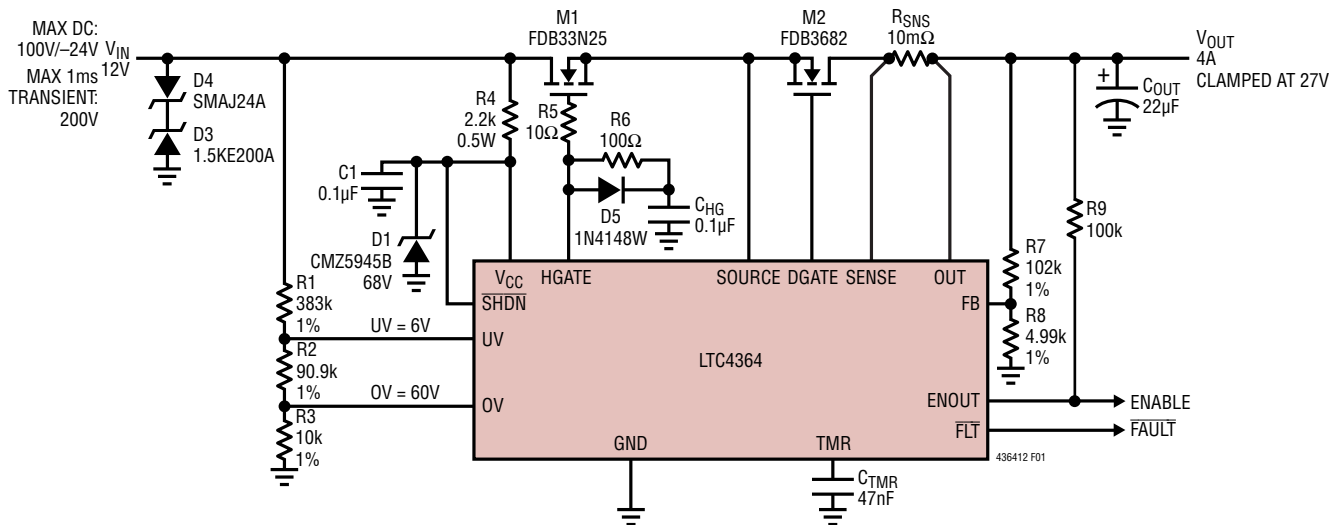
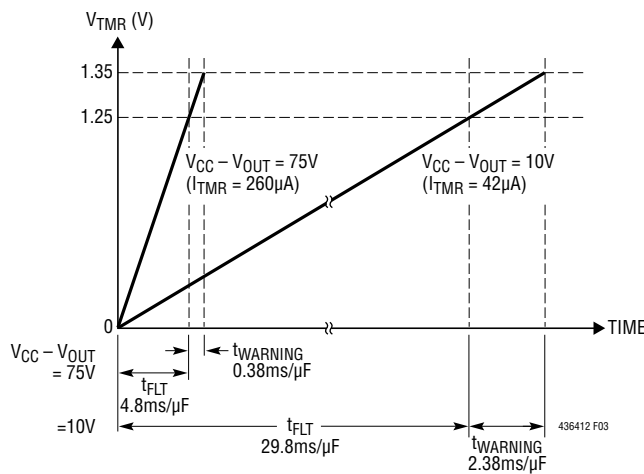

Figure 1. 4A, 12V Overvoltage Output Regulator with Reverse Current Protection
**Figure 2. External UV and OV Configuration Blocks Start-Up Into an Overvoltage Condition**
**$\Delta V_{HGATE}$  vs  $V_{IN}$  in Figure 1**
**$\Delta V_{DGATE}$  vs  $V_{IN}$  in Figure 1**
The LTC4364 drives an N-channel MOSFET (M1) at the HGATE pin to limit the voltage and current to the load circuitry during supply transients or overcurrent events. The selection of M1 is critical for this application. It must stay on and provide a low impedance path from the input supply to the load during normal operation and then dissipate power during overvoltage or overcurrent conditions. The LTC4364 also drives a second N-channel MOSFET (M2) at the DGATE pin as an ideal diode to protect the load from damage during reverse polarity input conditions, and to block reverse current flow in the event the input collapses. A typical application circuit using the LTC4364 to regulate the output at 27V during input surges with reverse input protection is shown in Figure 1.
Input overvoltage is detected with the OV pin and an external resistive divider connected to the input (Figure 1). At power-up, if the OV pin voltage is higher than its 1.25V threshold before the 100 $\mu\text{s}$  internal power-on-reset expires, or before the input undervoltage condition is cleared at the UV pin, the HGATE pin will be held low until the OV pin voltage drops below its threshold. To prevent start-up in the event the board is hot swapped into an overvoltage supply, separate resistive dividers with filtering capacitors can be used for the OV and UV pins (Figure 2). The RC constants should be skewed so that  $\tau_{\text{UV}}/\tau_{\text{OV}} > 50$ . In Figure 2, if the board is plugged into a supply that is higher than 60V, the LTC4364 will not turn on the pass devices until the supply voltage drops below 60V.
The LTC4364 detects input undervoltage conditions such as low battery using the UV pin. When the voltage at the UV pin is below its 1.25V threshold, the HGATE pin pulls low to keep the pass device off. Once the UV pin voltage rises above the UV threshold plus the UV hysteresis (50mV typical), the HGATE pin is allowed to pull up without going through a timer cycle. In Figure 1 and Figure 2, the input UV threshold is set by the resistive dividers to 6V. An undervoltage condition does not produce an output at the  $\overline{\text{FLT}}$  pin.
The LTC4364 drives two N-channel MOSFETs, M1 and M2, as the pass devices to conduct the load current (Figure 1). The important features are on-resistance,  $R_{\text{DS(ON)}}$ , the maximum drain-source voltage,  $V_{(\text{BR})\text{DSS}}$ , the threshold voltage, and the safe operating area, SOA (for M1).
The added gate capacitor slows down the turn-off time during fault conditions and allows higher peak currents to build up during an output short event. If this is a concern, an extra resistor, R6, in series with  $C_{HG}$  can restore the turn-off time. A diode, D5, should be placed across R6 with the cathode connected to  $C_{HG}$  as shown in Figure 1. In a fast transient input step, D5 provides a bypass path to  $C_{HG}$  for the benefit of holding HGATE low and preventing self enhancement.
The LTC4364 is tested to operate to 80V and guaranteed to be safe from damage between 100V and  $-40\text{V}$ . Voltage transients above 100V or below  $-40\text{V}$  may cause permanent damage. During a short-circuit condition, the large change in current flowing through power supply traces coupled with parasitic inductances from associated wiring can cause destructive voltage transients in both positive and negative directions at the  $V_{CC}$ , SOURCE, and OUT pins. To reduce the voltage transients, minimize the power trace parasitic inductance by using short, wide traces. A small RC filter (R4 and C1 in Figure 1) at the  $V_{CC}$  pin filters high voltage spikes of short pulse width.
Another way to limit supply transients above 100V at the  $V_{CC}$  pin is to use a Zener diode and a resistor, D1 and R4, as shown in Figure 1. D1 clamps voltage spikes at the  $V_{CC}$  pin while R4 limits the current through D1 to a safe level during the surge. In the negative direction, D1 along with R4 clamps the  $V_{CC}$  pin near GND. The inclusion of R4 in series with the  $V_{CC}$  pin increases the minimum required supply voltage due to the extra voltage drop across the resistor, which is determined by the supply current of the LTC4364 and the leakage current of D1. 2.2k adds about 1V to the minimum operating voltage.
For sustained, elevated supply voltages, the power dissipation of R4 in Figure 1 becomes unacceptable. This can be resolved by using an external depletion mode N-channel MOSFET to replace R4 (M1 in Figure 7a) or using an external NPN transistor (Q1 in Figure 7b) as a buffer. To protect Q1 against supply reversal, block the collector of Q1 with a series diode or tie it to the cathode of D3 and D4 in Figure 1.
Transient suppressor D3 in Figure 1 clamps the input voltage to 200V for voltage transients higher than 200V, to prevent breakdown of M1. It also blocks forward conduction in D4. D4 limits the SOURCE pin voltage to 24V below GND when the input goes negative.  $C_{OUT}$  helps absorb the inductive energy at the output upon a sudden input short, protecting the OUT and SENSE pins.